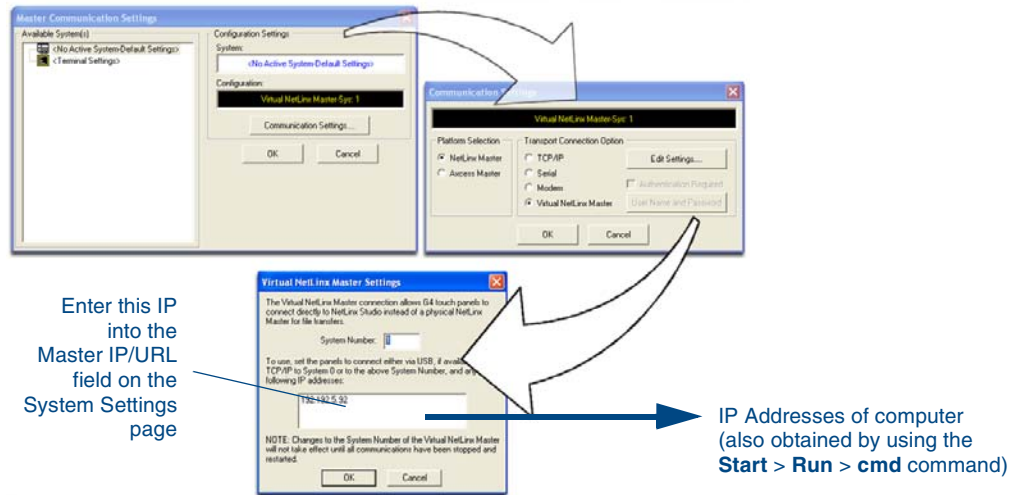

FIG. 40 Assigning Communication Settings and TCP/IP Settings for a Virtual Master
3. Select **Settings > Master Communication Settings**, from the Main menu to open the Master Communication Settings dialog (FIG. 40).
7. Click the **Edit Settings** button (*on the Communications Settings dialog*) to open the Virtual NetLinx Master Settings dialog (FIG. 40).